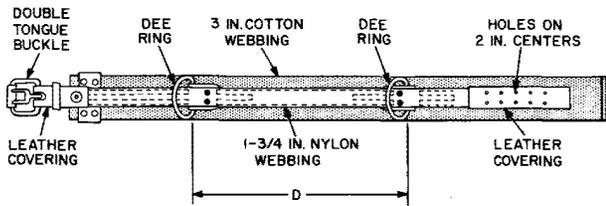

Fig. 1—Tower Body Belt
3.01 The Tower Body Belt is fabricated of 3-inch, 2-ply cotton webbing and 1 3/4-inch nylon webbing sown together with nylon thread. The double tongue buckle engages the buckle holes in the leather covered nylon webbing. The belt is equipped with two standard Dee rings and a removable slider. The belt is available in sizes of 20, 22, 24, and 26 inches. The sizes referred to indicate the distance between the Dee rings. Fig. 1 illustrates the Tower Body Belt without the slider.